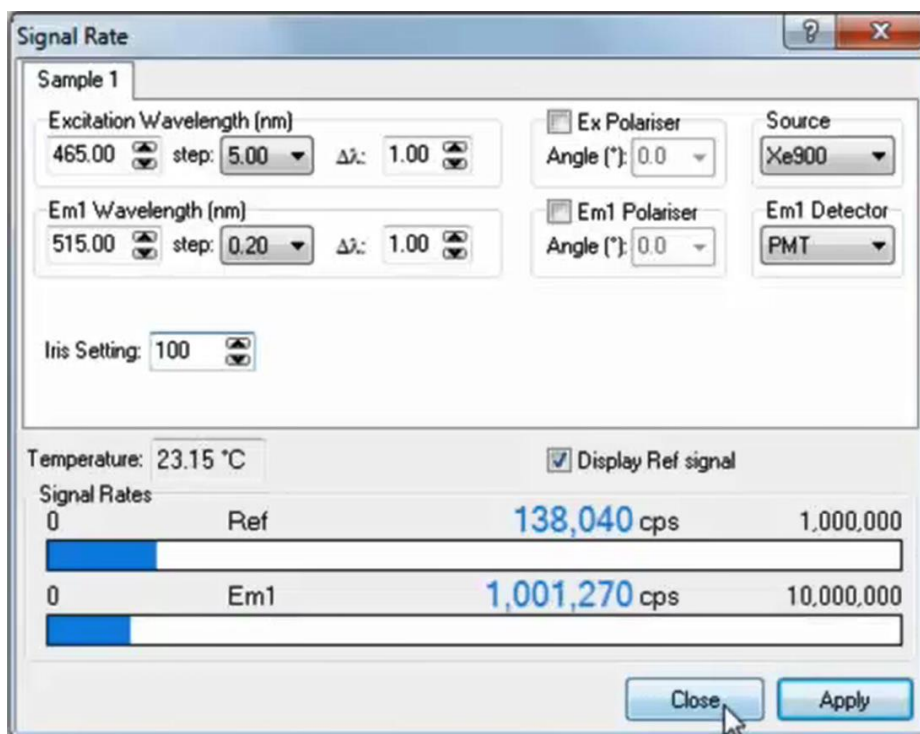

Figure 2. Screenshot of the signal rate window.
1. **Open the Signal Rate Window** – The “Signal Rate Window” lists live counts as recorded within the instrument and can be used to optimize signal parameters (See **Figure 2**).